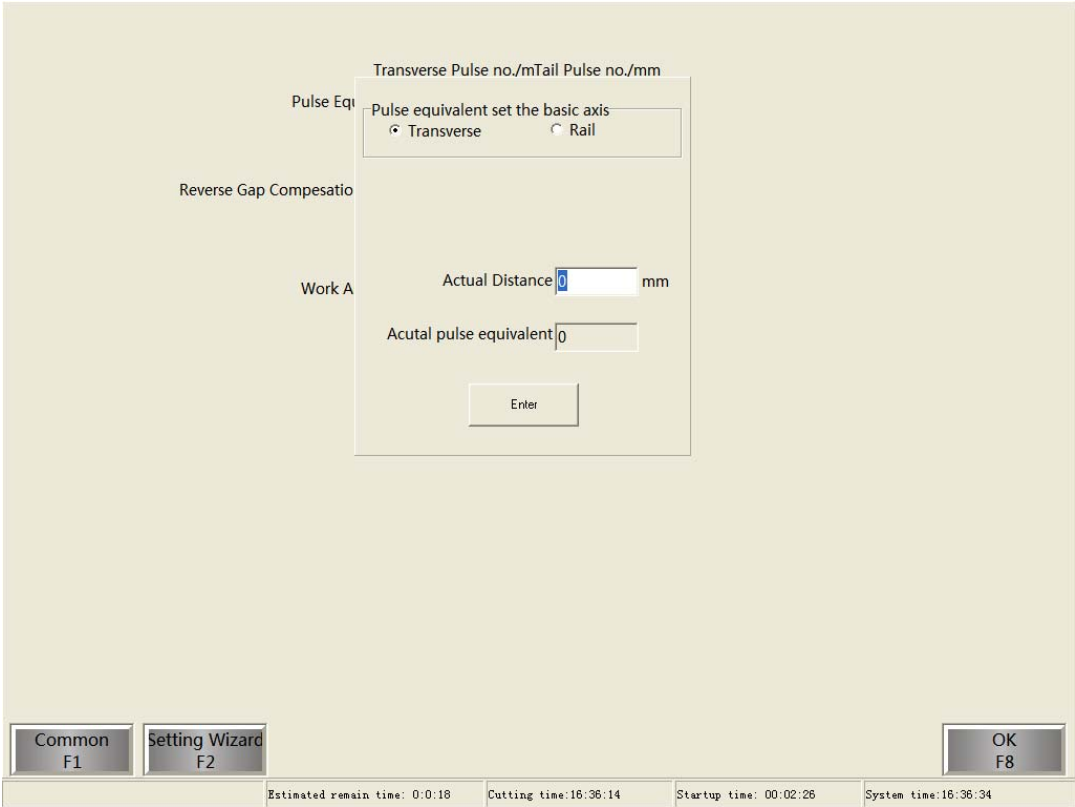

Figure 3.2.4.3.5 Accuracy setting test completed
3) Use the measuring tool to measure the actual moving distance at the direction of the selected axis, and enter this value into the Actual distance as shown in Figure 3.2.4.3.5, then press Enter, the actual pulse offset will display in Actual pulse offset, as shown in Figure 3.2.4.3.6.